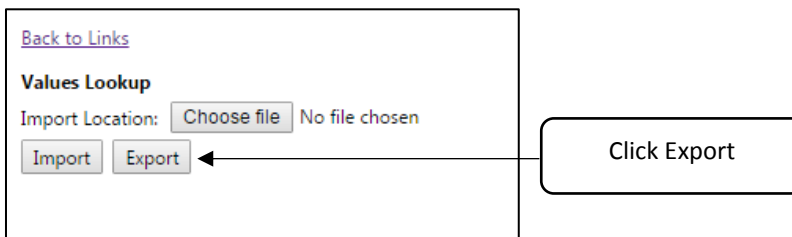

Figure 10.
- 2) To view the existing property attributes values, click Export then open the spread sheet that is generated. See figure 10.